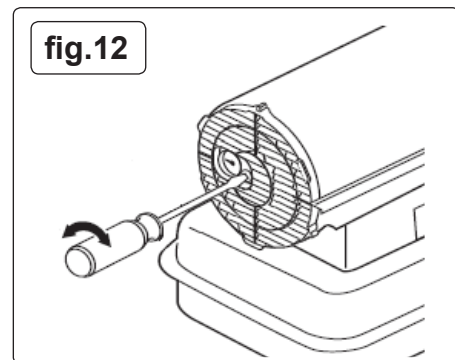

fig.12
7.8. PUMP PRESSURE ADJUSTMENT (See fig.12)
Periodically check the pump pressure by referring to the pressure gauge within the rear grille. If adjustment is required turn the adjusting screw located to the right of the gauge using a slotted screwdriver as shown in fig.12.